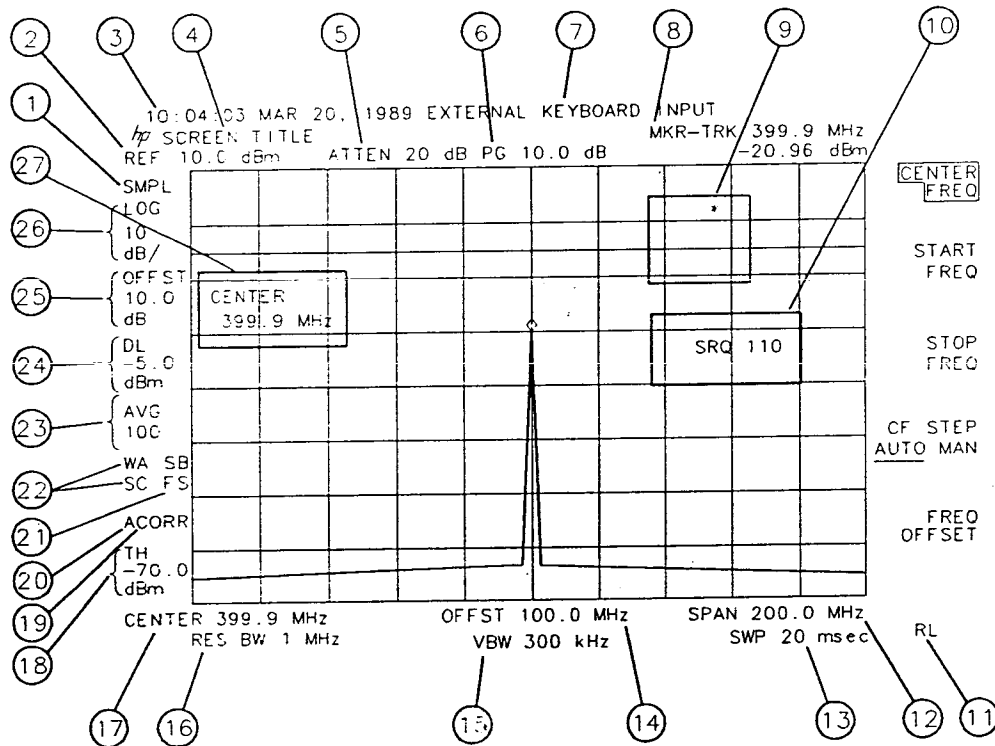

Figure 1-4. Screen Annotation
Figure 1-4 shows an example of the annotation that may appear on a spectrum analyzer screen. The screen annotation is referenced by numbers and is listed in Table 1-2. The function key column indicates which front-panel key or softkey activates the function related to the screen annotation. Refer to Chapter 3 for more information on a specific function key.
In Figure 1-4, item 21 refers to the trigger and sweep modes of the analyzer. The first letter (“F”) indicates the analyzer is in free-run trigger mode. The second letter (“S”) indicates the analyzer is in single-sweep mode.
Item 22 refers to the trace modes of the analyzer. The first letter (“W”) indicates that the analyzer is in clear-write mode. The second letter is “A,” representing trace A. The trace B trace mode is “SB”, indicating trace B (“B”) is in the store-blank mode (“S”). The trace mode annotation for trace C is displayed under the trace mode annotation of trace A. In Figure 1-4, the trace C trace mode is “SC”, indicating trace C (“C”) is in the store blank mode (“S”).